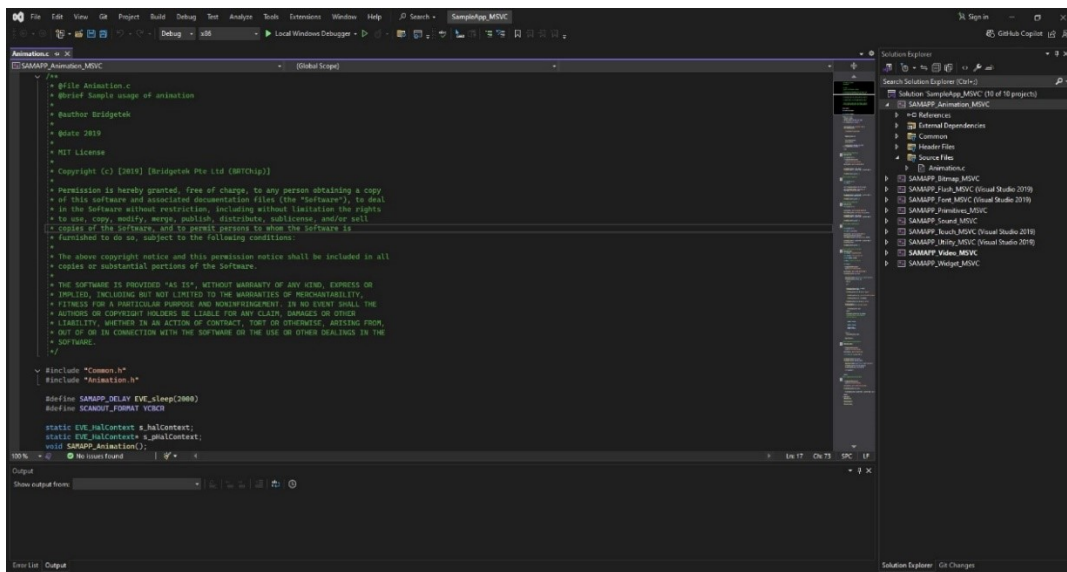

Figure 15 - Running SampleApp_MSVC.sln in Visual Studio
3. Launch the sample application **SampleApp_MSVC.sln** located under SampleApp folder. Figure 15 demonstrates SampleApp_MSVC.sln being executed in Visual Studio.